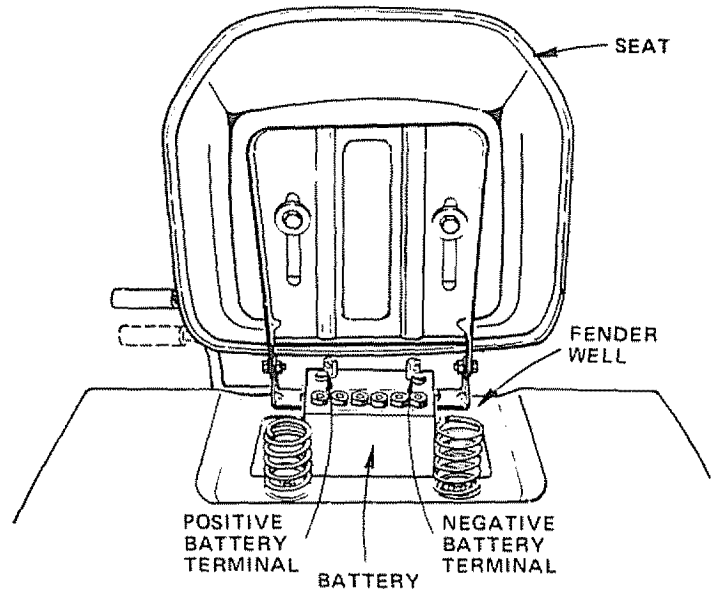
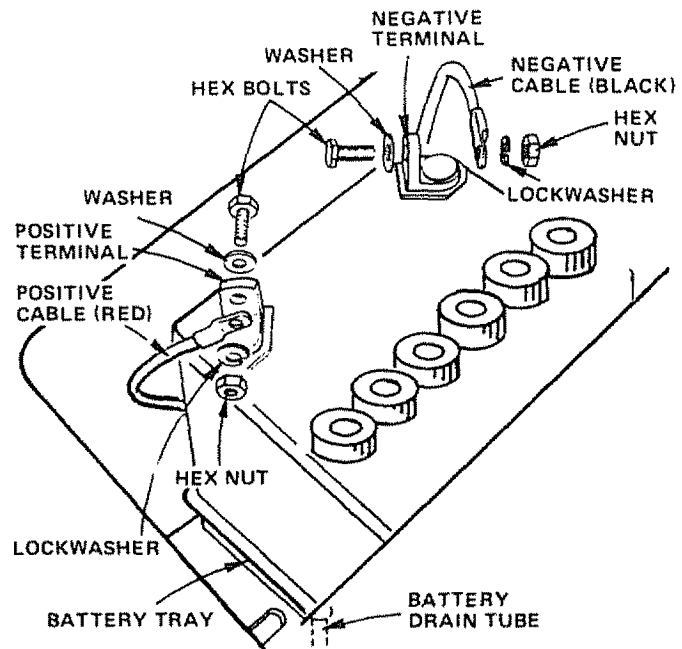

FIGURE 5
FIGURE 6
- a. Lift Seat (Fig. 5).
- b. Lower Battery into Fender Well with Battery Terminals toward front of tractor (Fig. 5). Make sure Battery rests in Battery Tray (Fig. 6).
- a. Connect RED Battery Cable to Positive (+) Battery Terminal with Hex Bolt, Flat Washer, Lockwasher and Hex Nut (Fig. 6). Tighten securely.
- b. Connect BLACK Ground Cable to Negative (-) Battery Terminal with remaining Hex Bolt, Flat Washer, Lockwasher and Hex Nut (Fig. 6). Tighten securely.